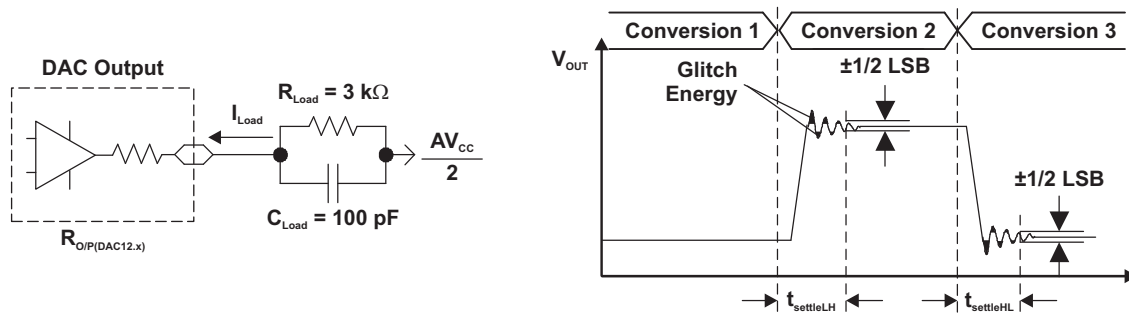
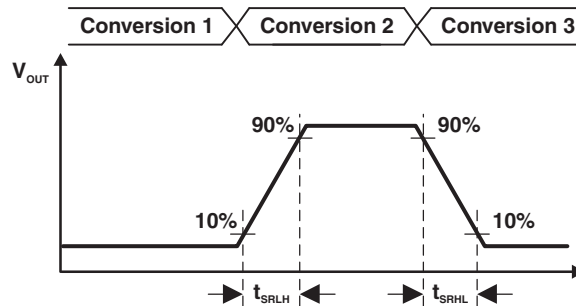

Figure 11. Settling Time and Glitch Energy Testing
Figure 12. Slew Rate Testing
V_{REF} = V_{CC}, DAC12IR = 1 (see Figure 11 and Figure 12)
- (1) R_{Load} and C_{Load} connected to AV_{SS} (not AV_{CC}/2) in Figure 11.
- (2) Slew rate applies to output voltage steps ≥ 200 mV.